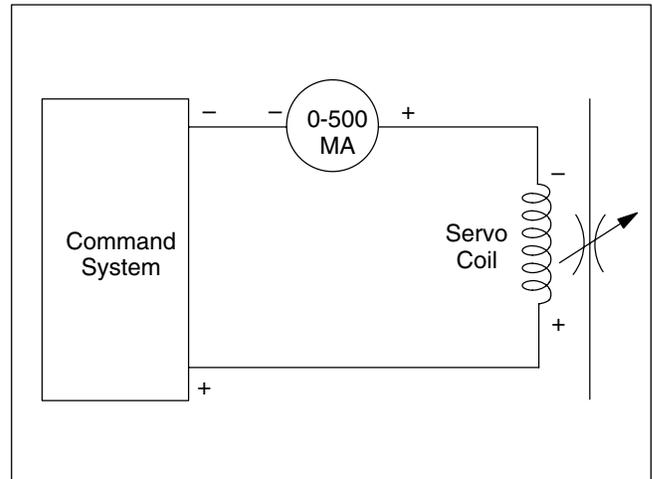

Figure 7. Servo Test Wiring Circuit
- a. Connect meter in system according to Figure 7.